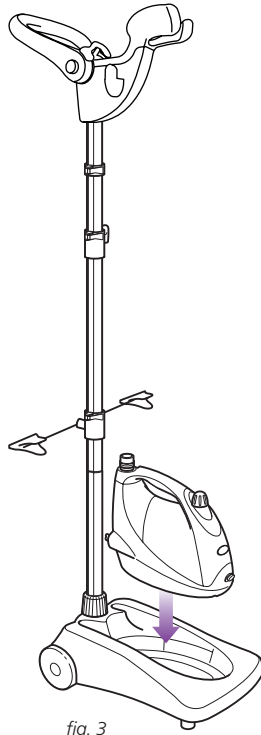

fig. 3
- 3 Place the portable steamer on the base. Make sure that it sits flat. (**fig. 3**)
- 4 Attach the steam hose to the steam unit by turning the connector clockwise until it is completely locked. Hang the steam nozzle on the steam nozzle cradle. (**fig. 3**)